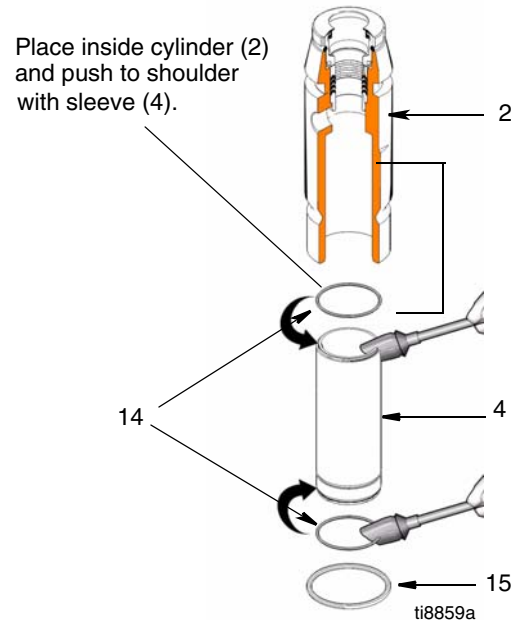

FIG. 14
12. (Fig. 14) Install o-rings (14) inside cylinder (2) and on sleeve (4). Slide sleeve (4) into bottom of cylinder (2). Replace o-ring (15) if desired.